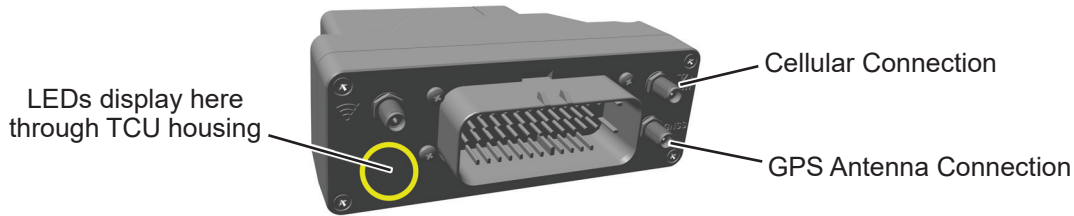

Figure 38
- a. Check for a solid red LED and flashing green LED on front of TCU. See Figure 38. No lit LEDs on front of TCU indicates no power to TCU.